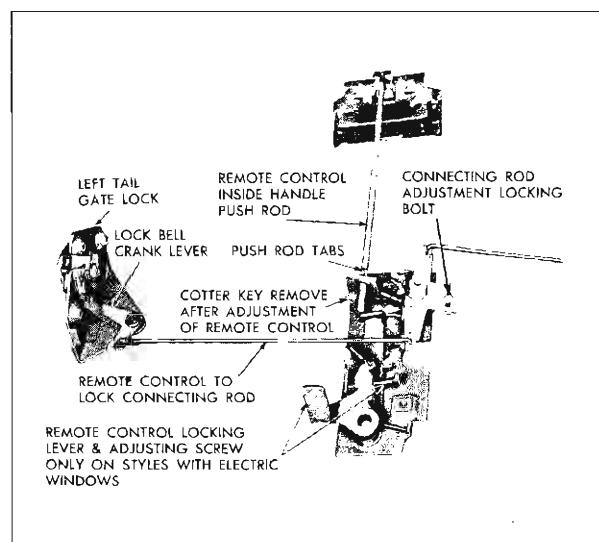

Fig. 5-17 Tail Gate Lock
3. Disengage spring clip and detach lock remote control connecting rod from lock remote control (Fig. 5-17).
To attach lock connecting rod to remote control lever, first, loosen connecting rod adjustment locking bolt at remote control (Fig. 5-17); then, install rod to lever and tighten locking bolt.
NOTE: To engage end of handle push rod into hole in remote control lever, it may be necessary to raise window in tail gate to gain access to lever. Adjust remote control upward until tabs on handle push rod (Fig. 5-17) just contact remote control lever.
2. Disengage clips securing lock connecting rods to remote control (Fig. 5-17) and detach connecting rods from remote control.
2. Adjust remote control assembly up or down until tabs on push rod (Fig. 5-17) just contact remote control lever.
3. To attach lock connecting rods to remote control lever, first, loosen connecting rod adjustment locking bolt (Fig. 5-17); then, install rods to levers and tighten locking bolt.
IMPORTANT: If installing new remote control assembly, remove cotter key (Fig. 5-17) after adjustment to free locking lever.
6. Lower window to approximately $\frac{1}{2}$ inch up from "full down" position; then adjust remote control locking lever adjusting screw (Fig. 5-17) so that lever is just contacting window lower sash channel frame. Check operation of remote control inside handle. Handle should remain locked until window is lowered to within $\frac{1}{4}$ inch of the "full-down" position.